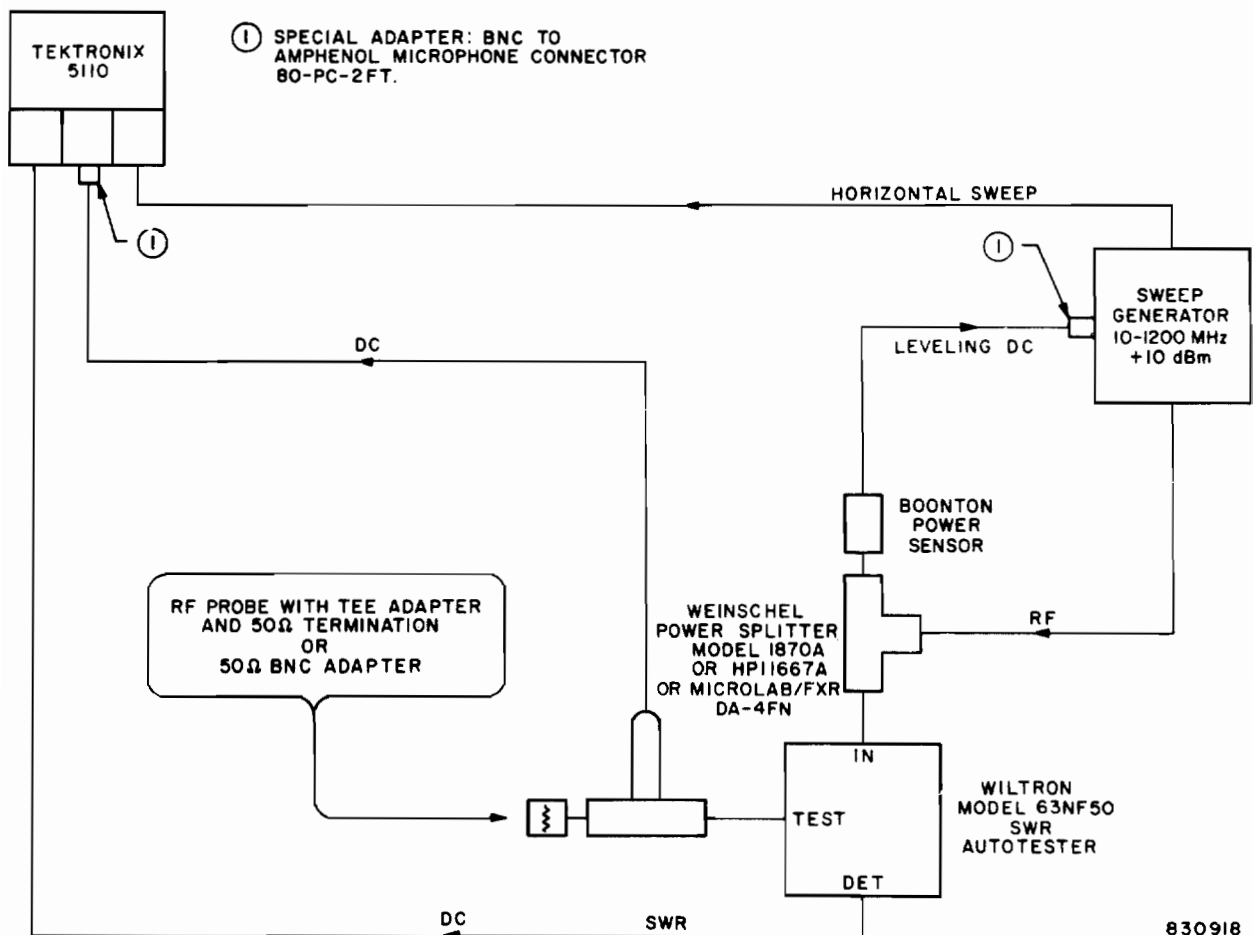

Figure 4-3. Swept Frequency Response Test Setup
- i. Connect the equipment as shown in Figure 4-3, and temporarily connect the probe under test to the 92E. Adjust the output control of the sweep generator for a reading on the 92E of 100 mV at a fixed frequency of 100 MHz.